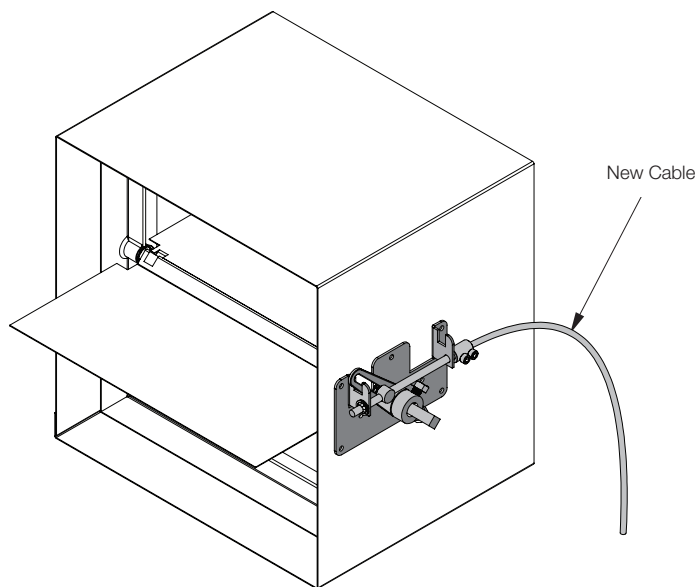

Figure 1
1. If you are replacing an already existing cable, please remove the cable from the damper by loosening the set screw on the already installed coupler. (Fig. 1)
3. Cut the new cable tubing 1.5 in. (38) shorter than the cable.
4. Slide the cable tubing onto the cable and attach the cable assembly to the coupler already on the damper. (Fig. 1) The tubing will fit loosely on the cable.